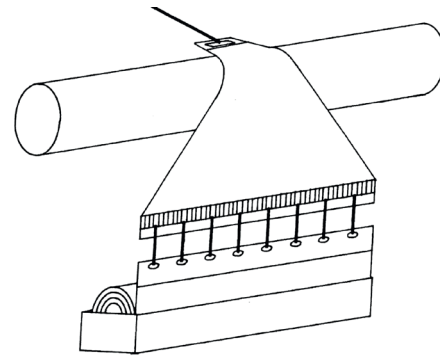

FIGURE 5. Lead-on harness arrangement.
9. Some of the potential problems aligning your new fabric with a ring bridle can be eliminated by using a lead-on harness (Figure 5). This is a triangular-shaped leader which connects to the new fabric via a fringed area across its width to which ropes can be tied.